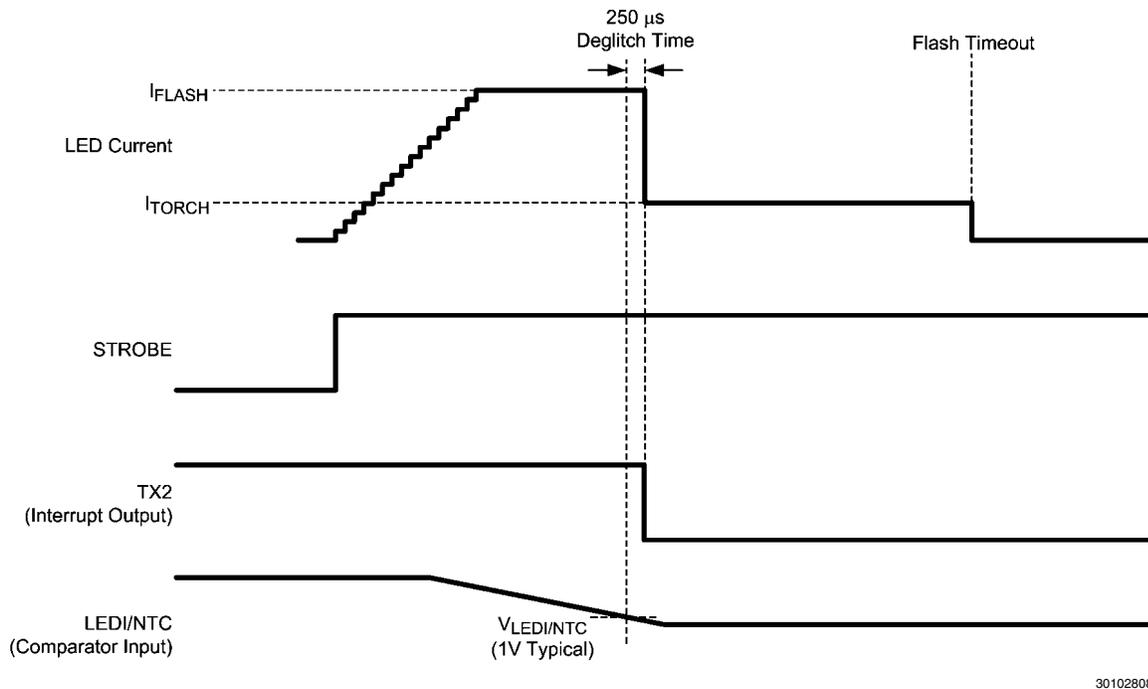

FIGURE 6. TX2 As an Interrupt Output (During an NTC Event)
3. The LM3559 is configured for VIN Flash Monitor mode (VIN Monitor Register bit [3] = 1) and VIN falls below the programmed VIN Flash Monitor Threshold. Figure 6 details the functionality of the TX2/INT/GPIO2 input.